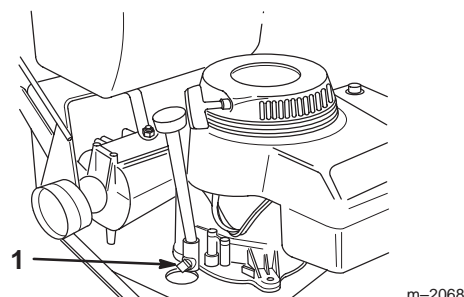

Figure 28
4. Place a pan below the oil drain. Remove the oil drain plug (Fig. 28).